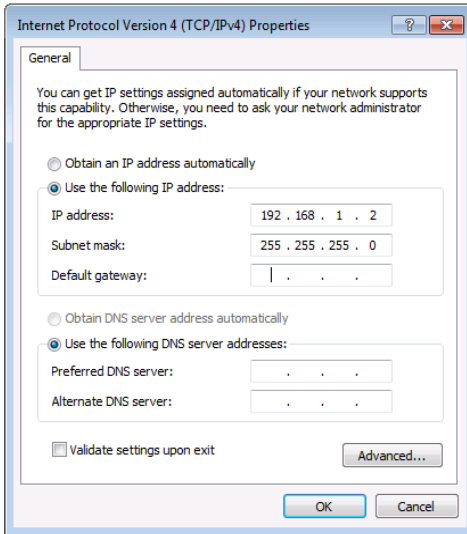

Figure 24: Internet Protocol Properties Window
6. Select **Use the following IP Address** for static IP addressing and fill in the details as shown in Figure 24.